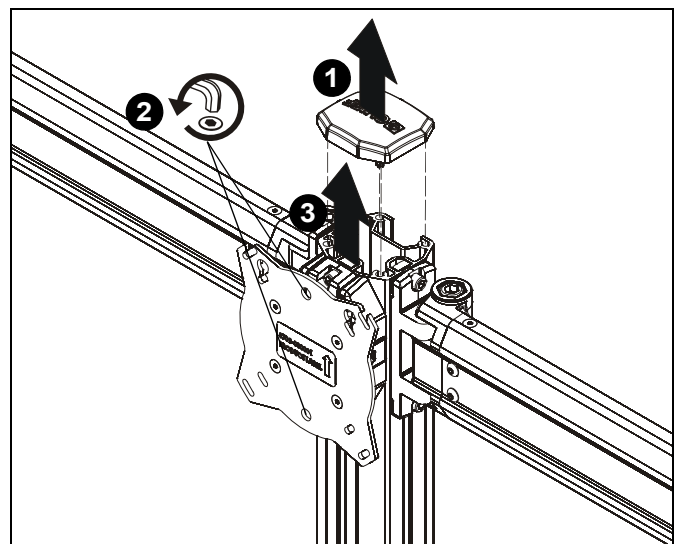

Figure 24
- Remove column cap (D) from array column. (See Figure 24)
- Loosen height adjustment screws for center faceplate assembly. (See Figure 24)
- Slide faceplate assembly up through column channel until it is removed from column. (See Figure 24)